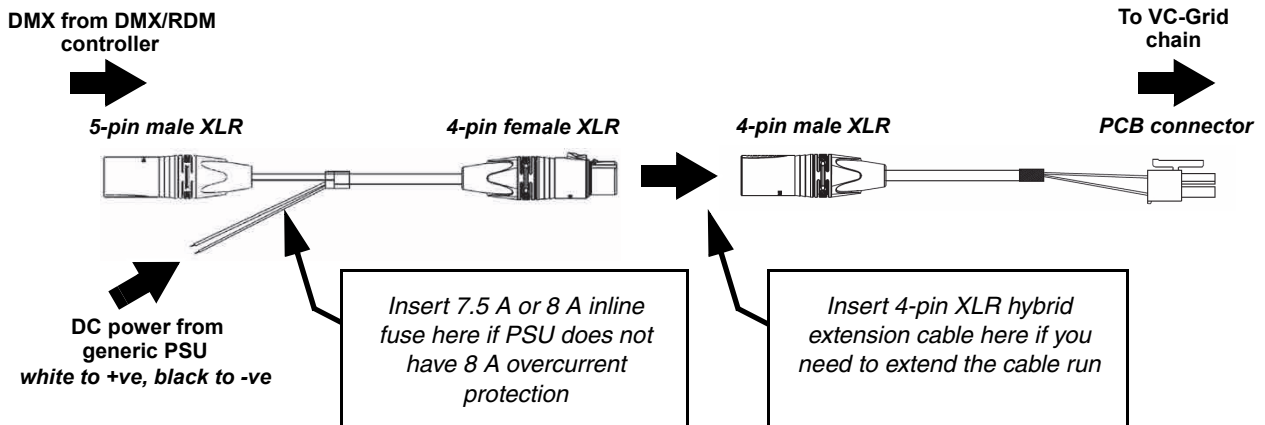

Figure 9: Generic PSU and DMX connections to a VC-Grid chain
5. See Figure 9. Connect a Martin™ hybrid-to-PCB adapter cable (P/N 11840158) to the first VC-Grid of each chain.
7. See Figure 9. If the PSU does not have constant overcurrent protection that will limit current to 8 A on the DC output used, install an inline fuseholder with a 7.5 A or 8 A fuse on the white (+ve) power wire of a Martin™ hybrid lead-in cable (P/N 11840171). A 30 amp automotive-type inline fuseholder with a 7.5 A blade fuse can be used. Connect the power wires on the lead-in cable to a DC output on the PSU. Connect the white wire to positive (+ve) and the black wire to negative (-ve).